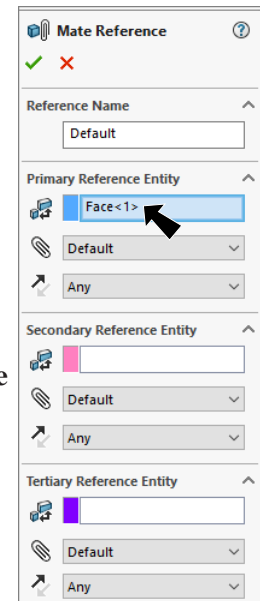

Fig. 19
Step 4. In the Mate Reference Property Manager click OK , Fig. 19.